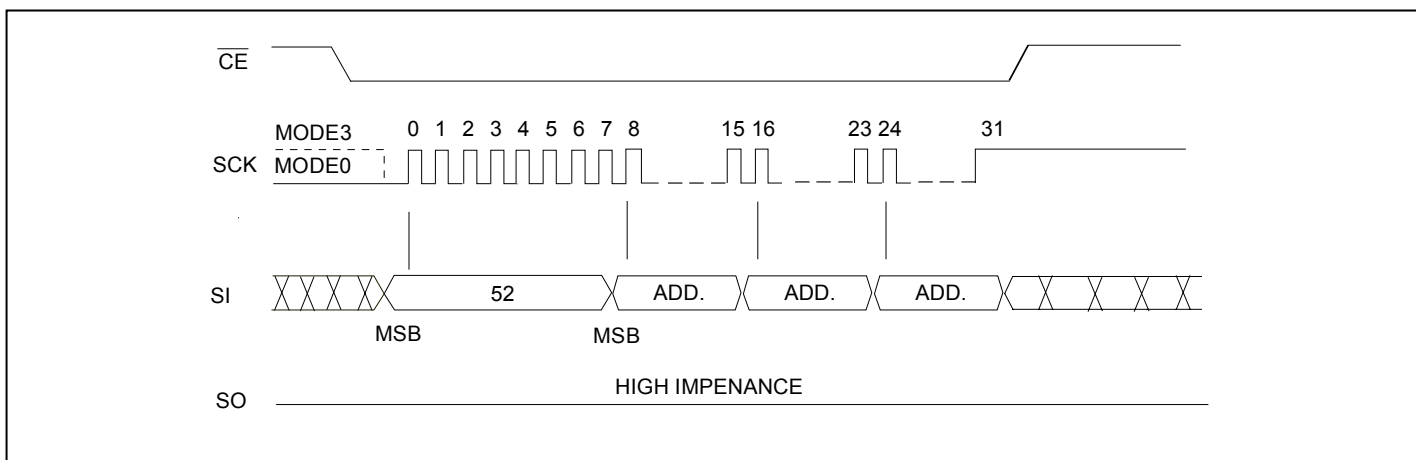

Figure 18: 32K-byte Block Erase Sequence
-A₀]. Address bits [A_{MS}-A₁₅] (A_{MS} = Most Significant address) are used to determine the block address (BA_x), remaining address bits can be V_{IL} or V_{IH}. \overline{CE} must be driven high before the instruction is executed. The user may poll the BUSY bit in the Software Status Register or wait T_{BE} for the completion of the internal self-timed Block Erase cycle. See Figure 18 for 32K Byte Block Erase sequence.